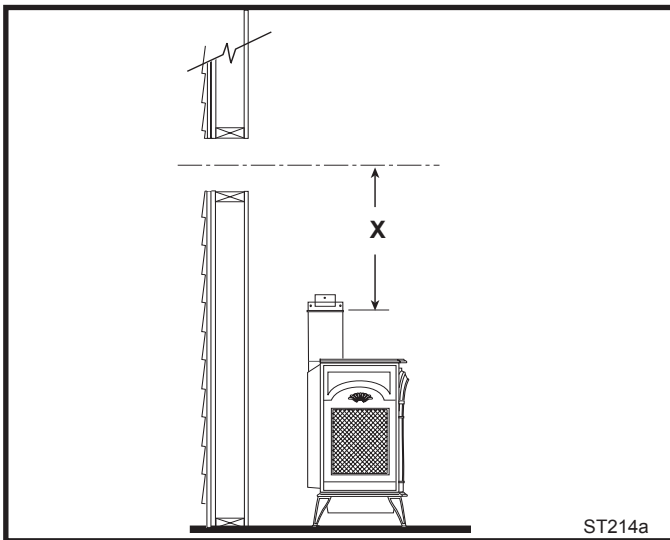

Fig. 25 Determine the vertical pipe length.
4. **For Vermont Castings Group Vent Pipe only:** If necessary, measure to determine the vertical length (X) of pipe required from the adapter pipe to the wall cutout centerline, including a 2" overlap at the joint. (Fig. 25) use a hacksaw or tin snips to trim the pipe as needed.